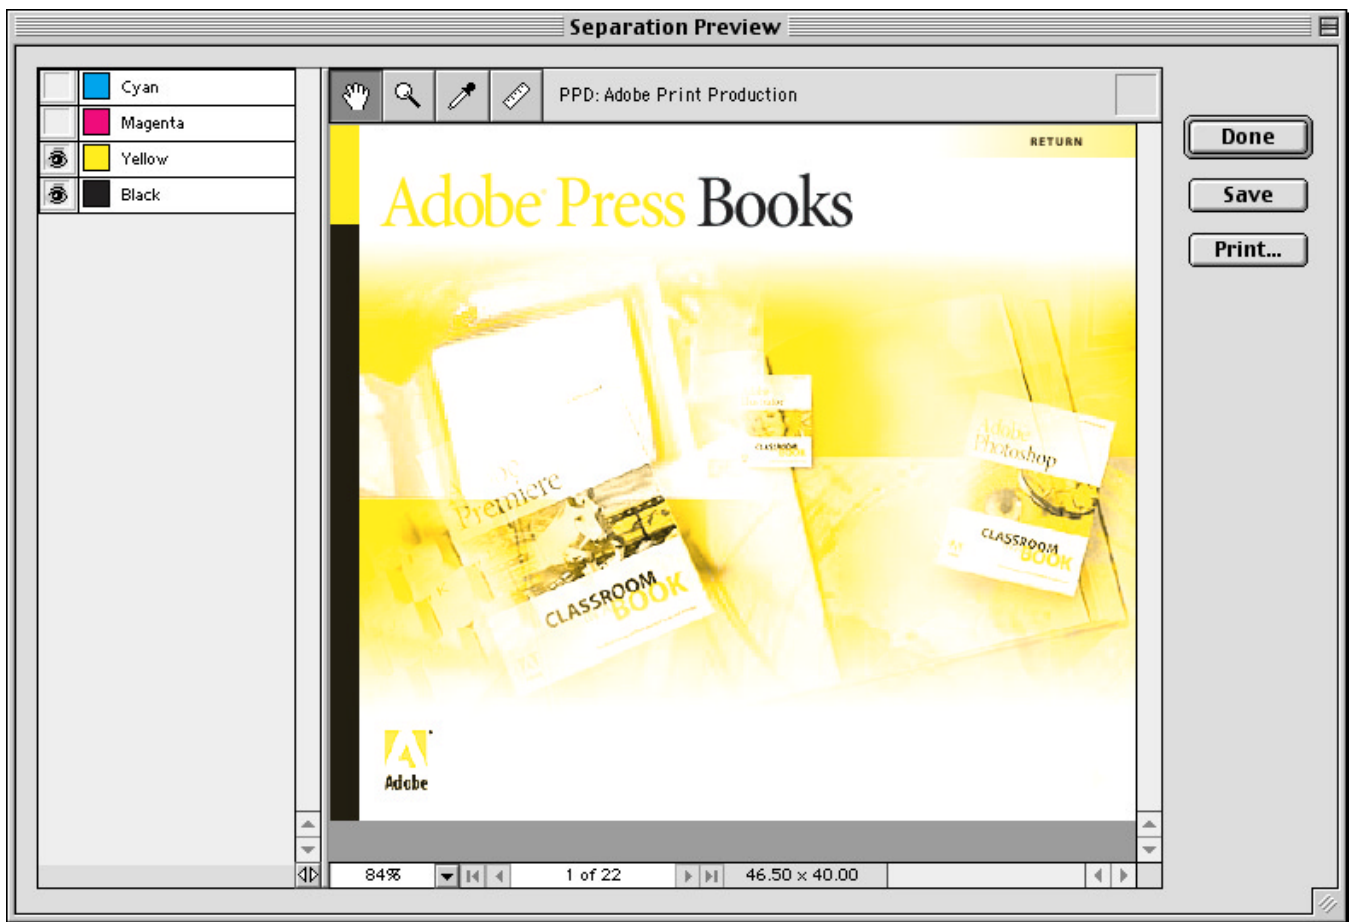

FIG. 6: The separation preview for the yellow and black plates.
2. Preview color separations (FIG. 6). InProduction provides the same CMYK preview capability that is present in Adobe Photoshop.